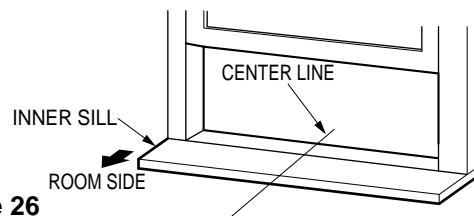

Figure 26
Open the window and mark center line on the center of the inner sill, as shown in Figure. 26.
- b. The bracket helps to hold unit securely in place. Be sure to place bracket edge flush against back of inner sill. See Figure. 26.